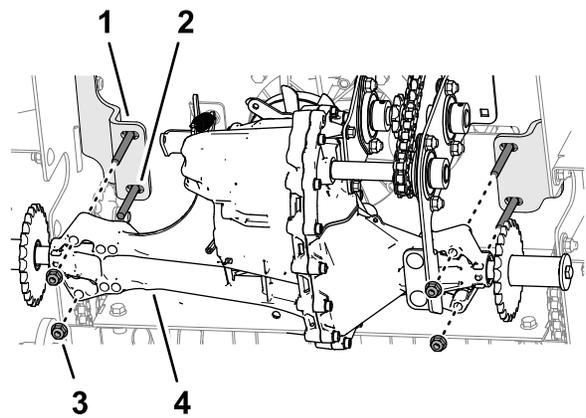

Figure 62
2. Ensure that the 4 carriage bolts (3/8 x 2-3/4 inches) are assembled to the 2 axle mounts (Figure 62).